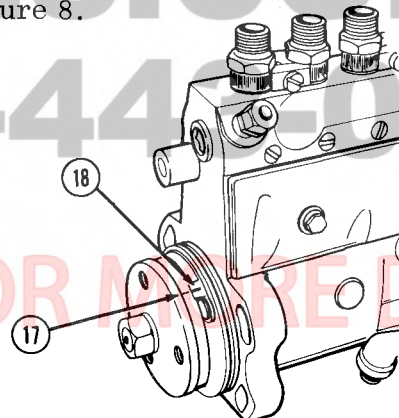

Figure 8
1. When installing the injection pump, align the mark on the drive hub (17) with the mark on the pump timing pointer (18), Figure 8.